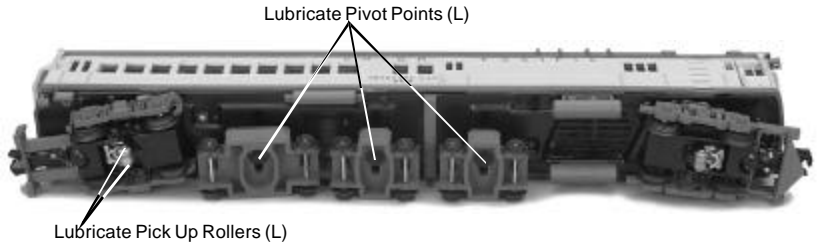

Figure 5. Lubrication Points on the Locomotive
1. Although the engine was lubricated at the factory, it is important that you lubricate the chassis before operation. Lightly grease the outside idler and drive gears (marked “G” in Fig. 7 on pg. 13) with lithium-based grease to prevent them from squeaking. Use light household oil and follow the lubrication points (marked “L” in Fig. 5 on pg. 12). Do not over-oil. Use only a drop or two on each pivot point.
You should regularly lubricate the engine to prevent it from squeaking. Use light household oil and follow the lubrication points marked “L” in Fig. 5. Do not over-oil. Use only a drop or two on each pivot point.